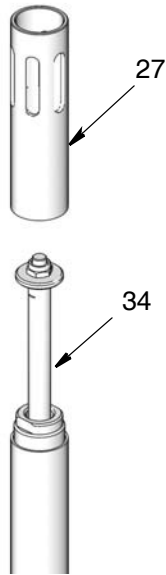

Fig. 2
- Secure a strap wrench around the shovel cylinder (27). Use the strap wrench to turn the shovel cylinder counter-clockwise to loosen and remove it from the pump assembly (Fig. 2).